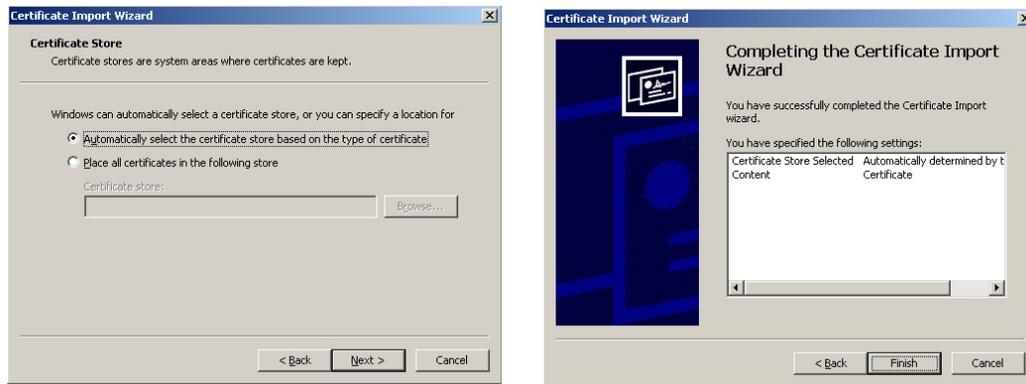

FIG. 75 Certificate Import Wizard- storing the certificate
9. Click **Next** to automatically use the default certificate store settings and locations (FIG. 75).